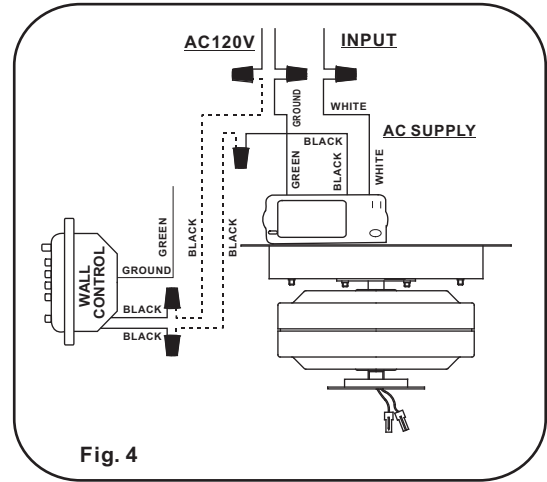

Fig. 4
Step 2. Make the electrical connections as shown in Fig.4. If your outlet box has a ground wire (Green or Bare Copper) connect the Transmitter's ground wire directly to one of the screws from the outlet box. Secure all wire connections with the plastic wire nuts provided.